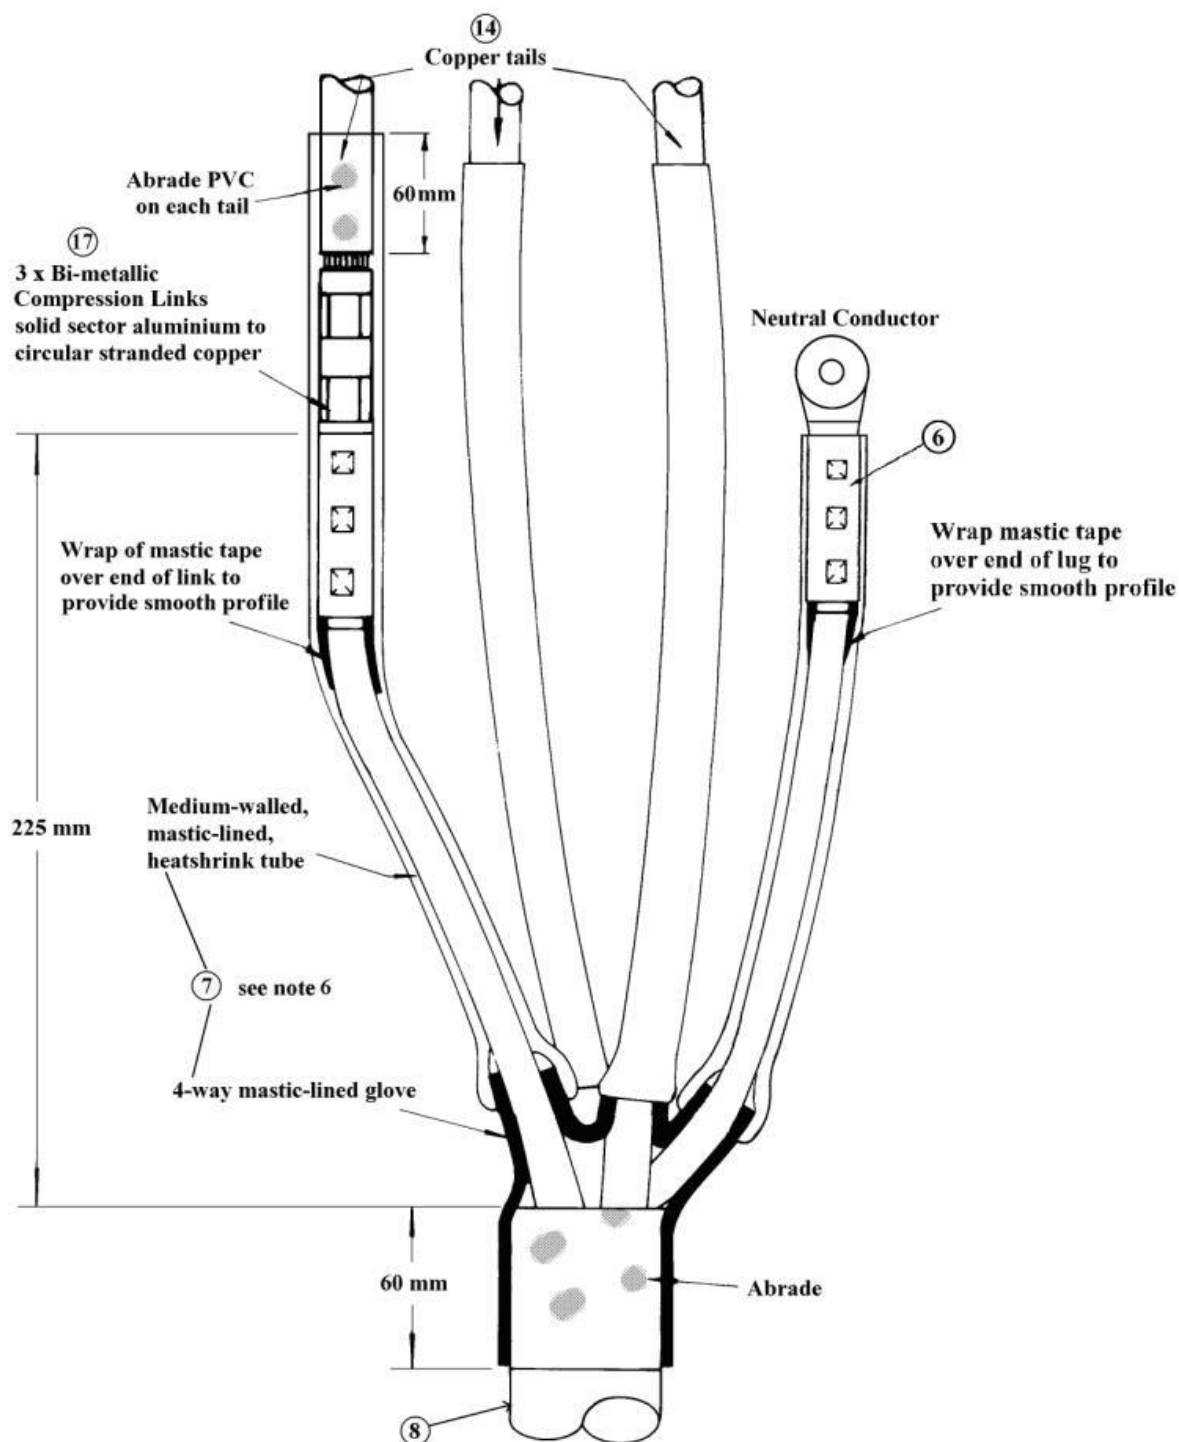

Figure 11.2 – Detail C: Termination Details
1. Cover the bolted connection area with fibreglass tape to keep it free from any adhesives flowing from item 5.
2. The heatshrink components required for the bolted connection are packaged as a single kit. Refer to item 5 for details.
6. The heatshrink components required for the multicore cable termination are packaged as a single kit. Refer to item 7 for details.
7. Abrade the cable sheath to the dimensions shown in General Arrangement and Figure 11.2 – Detail C: Termination Details.